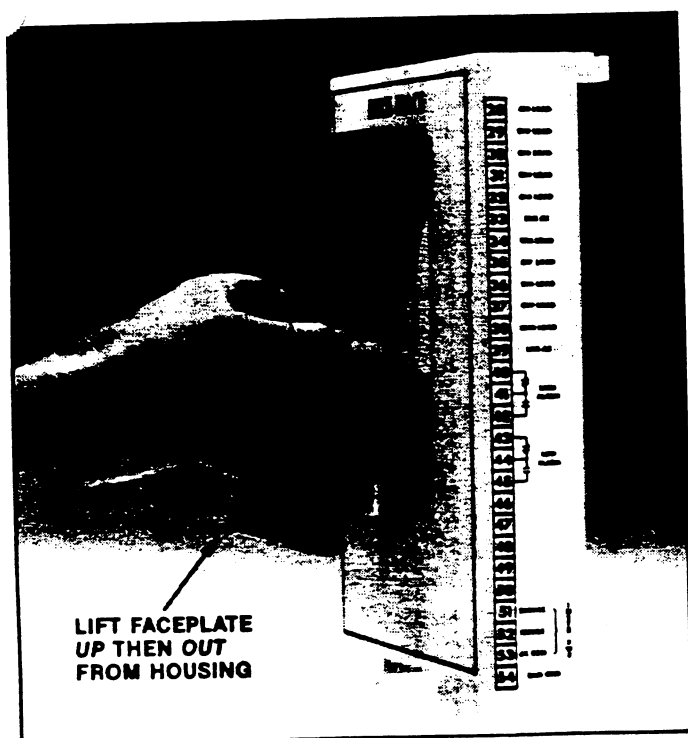

FIGURE 4-5
4. Grasp the faceplate from the front and lift UP, then OUT, to remove from housing (Figure 4-5).